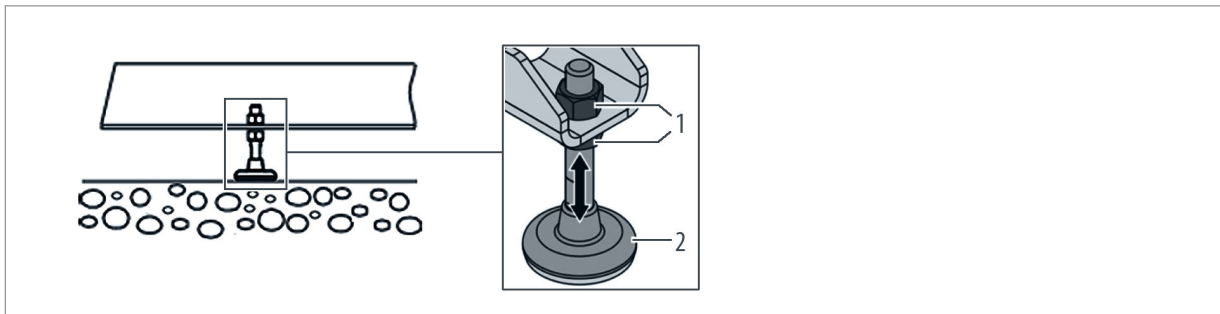

Fig. 12: Align the pump assembly
- Undo nuts (no. 1 in Fig. 12) on machine feet (no. 2 in Fig. 12).